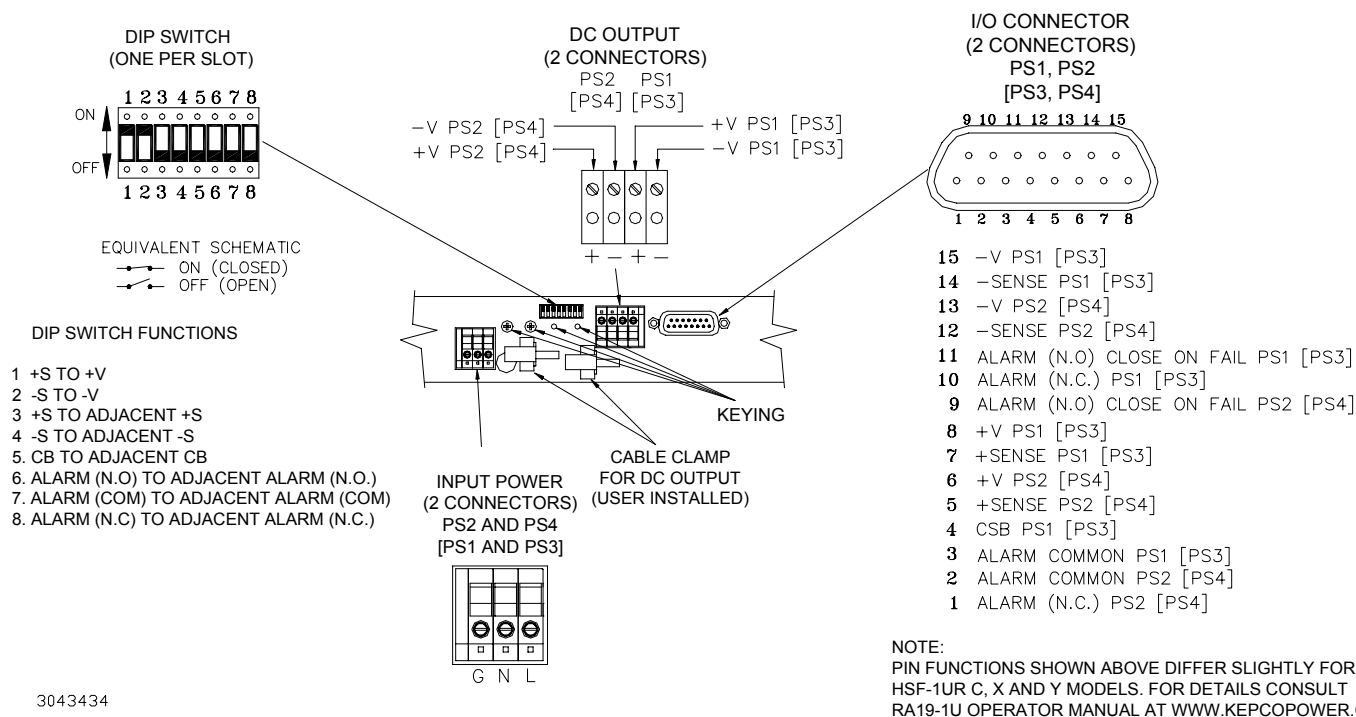
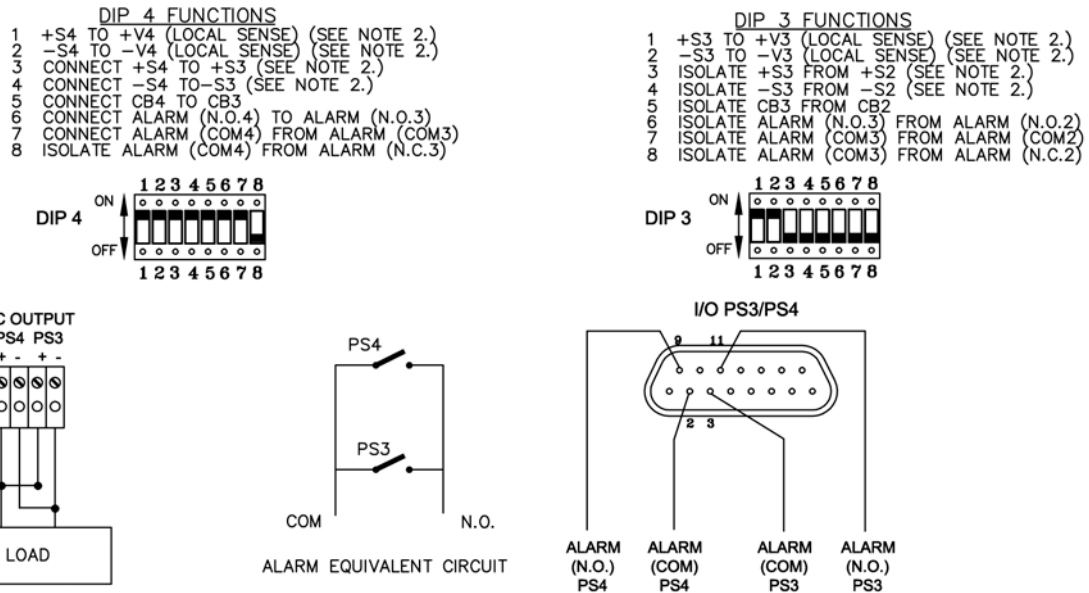

FIGURE 1. REAR PANEL CONNECTIONS, TYPICAL
FIGURE 3. SLOTS 3 AND 4 CONFIGURED FOR PARALLEL OPERATION, WITH CLOSE ON FAIL ALARM CIRCUIT
The rack adapter is user-configurable for parallel, series, or independent power supply operation. Forced current sharing and OR'ing diodes for N+1 redundancy are built into the HSF power supplies. Redundant a-c inputs are provided to deliver independent source power to each power supply in a redundant pair. User-configurable keying can ensure that only the correct power supply can be installed in a keyed slot. Input/output connections between RA 19-1U and HSF power supply are via HSF connectors that plug into corresponding connectors of the RA 19-1U. All connections are made at the rear panel (see Figure 1).
DIP SWITCHES. The DIP switches (Figure 1) are arranged as follows: DIP 1 is for PS1 sense lines; DIP 2 is for PS2 sense lines and for paralleling PS1 and PS2. DIP 3 is for PS3 sense lines and for paralleling PS2 and PS3. DIP
INDEPENDENT OPERATION. The RA 19-1U rack adapter is shipped with the DIP switches of all slots configured for independent operation (see Figure 1) and local sensing. Refer to RA 19-1U manual for remote sensing.
Figure 3 shows HSF's in slots 3 and 4 connected in parallel (master/slave, master established automatically by voltage) with forced current sharing and a close-on-fail alarm circuit. Both HSF modules are configured for output voltage to be adjusted from the front panel trimpot (factory default setting). See HSF operator manual for other output voltage adjustment options.
3. Set position 5, to ON. This connects the current share bus (CB) for slots 4 and 3.
4. Set positions 6 and 7 to ON. Position 6 connects the normally open ALARM (N.O.) lines and position 7 connects the ALARM (COM) (common) for slots 4 and 3, implementing a close-on-fail alarm circuit (see equivalent schematic shown in Figure 3. If either PS3 or PS4 fails, a contact closure provides continuity across pins 7 and 14 of both I/O 4 and I/O 3.
N.O. and ALARM COM (see Figure 1). Open on Fail circuits are across I/O connector pins for ALARM N.C. and ALARM COM. Figure 3 shows a parallel close-on-fail circuit for slots 3 and 4 using the DIP switches to make the connections. See Operator Manual for other options.
The rack adapter is supplied with six cable clamps equipped with release levers that can be snapped into holes provided in the rear panel (see Figure 1) to support the weight of the input, output and signal cables.
CONTROL SIGNALS: Access to all the control signals for each HSF power supply is provided via two 15-pin D-subminiature I/O connectors on the rear panel of the rack adapter (see Figure 1). Two mating connectors (Kepco P/N 142-0449) are provided in a plastic bag.